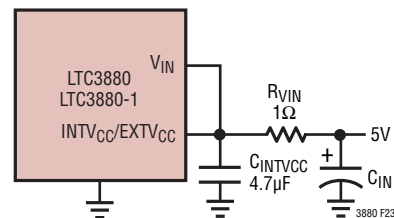

Figure 23. Setup for a 5V Input
For applications where VIN is 5V, tie the VIN and INTVCC pins together and tie the combined pins to the 5V input with a 1Ω or 2.2Ω resistor as shown in Figure 23. To minimize the voltage drop caused by the gate charge current a low ESR capacitor must be connected to the VIN/INTVCC (EXTVCC) pins. This configuration will override the INTVCC (EXTVCC) linear regulator and will prevent INTVCC (EXTVCC) from dropping too low. Make sure the INTVCC (EXTVCC) voltage exceeds the RDS(ON) test voltage for the MOSFETs which is